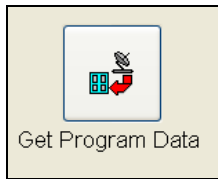

Figure 6.2.1
1. From the List of icons to the right of the “Speed Communications” screen select the **Get Program Data** icon (Figure 6.2.1).